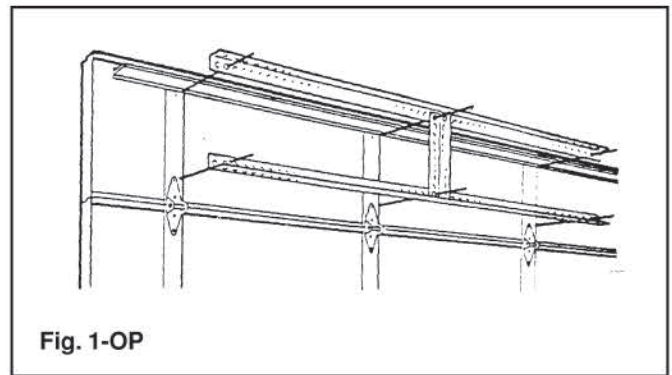
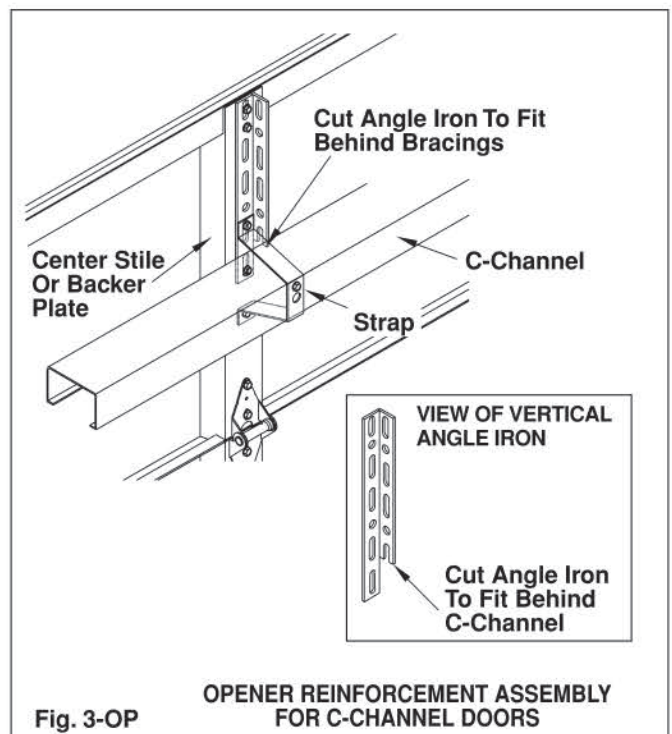

Fig. 1-OP
Fig. 3-OP
- Place remaining 8 ft. [244 cm] piece across the top of the section, bridging across the same three stiles as the bottom angle. Attach with fasteners similar to ones used with the hinges. One fastener per stile. If your door has a strut at the top of the section, remove the bottom strut clips and overlap the flange of the strut with the angle iron to secure the bottom of the strut. Attach angle using the fasteners removed with the strut clips. (FIG. 1-OP) Refer to Figure 3-OP for C-Channel.
- Cut the 24" [610 mm] piece of punched angle iron to span from top horizontal angle to bottom horizontal angle. Place vertical angle directly in the center of the door. Attach vertical angle to both the top and bottom horizontal angles with two $\frac{3}{8}$ " [10 mm] nuts and two $\frac{3}{8}$ " [10 mm] bolts. Refer to Figure 3-OP for C-Channel.
NOTE: Proper alignment of the pass door frame is critical for smooth operation of the pass door. After stacking the bottom section, measure the pass door frame opening at the top and bottom of the frame (Figure 3-PD). If this measurement is not exactly the same, the bottom section will need to be shimmed or clamped so that the frame is aligned.